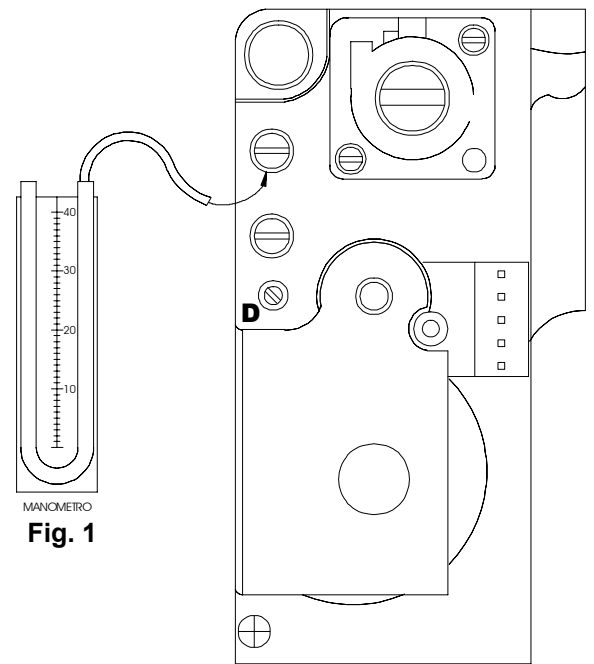

Fig. 1
- insert a manometer into the gas valve pressure point **B** (fig.1);
- The manometer inserted in the pressure point **B** (fig. 1) will show the minimum gas pressure;
- Remove the silicon pipe from the pressure point **B** (fig.1), close tightly the pressure point screw and make sure there are no gas leaks;
a. Insert a manometer into the gas valve pressure point B (fig. 1);